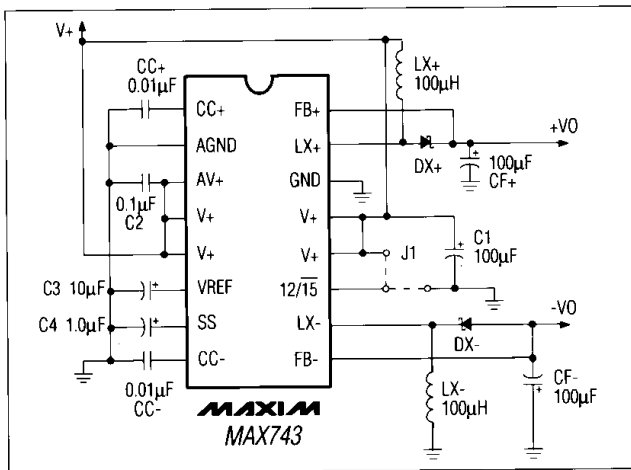
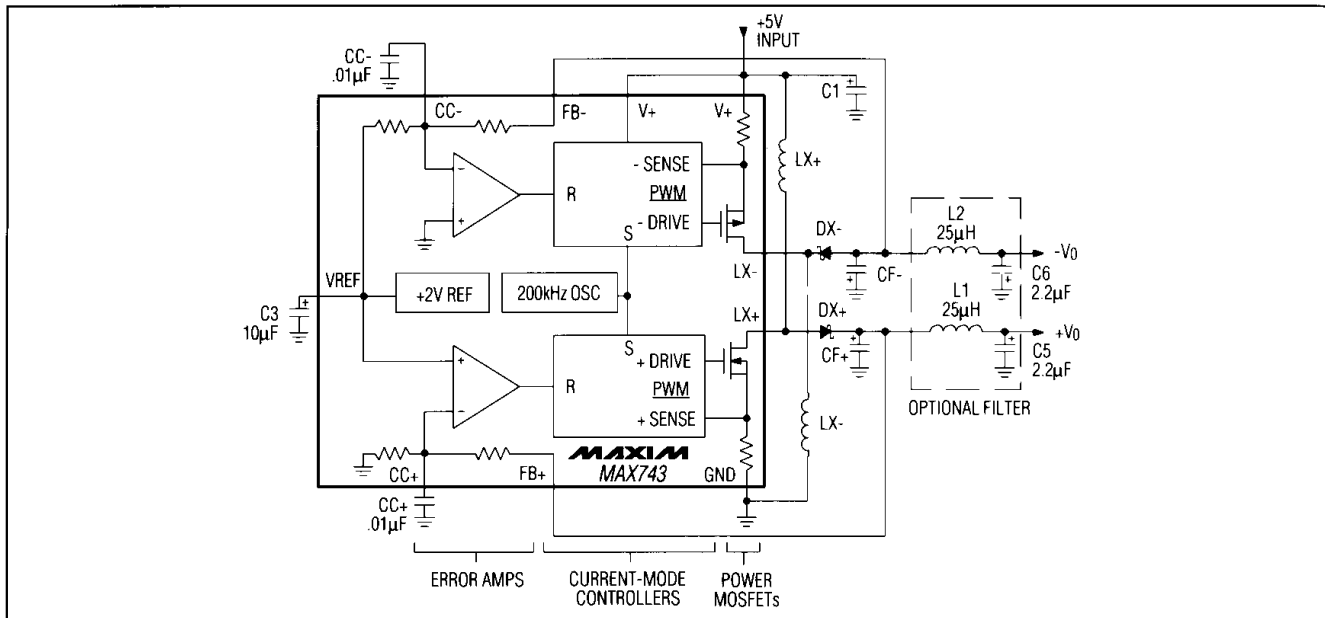
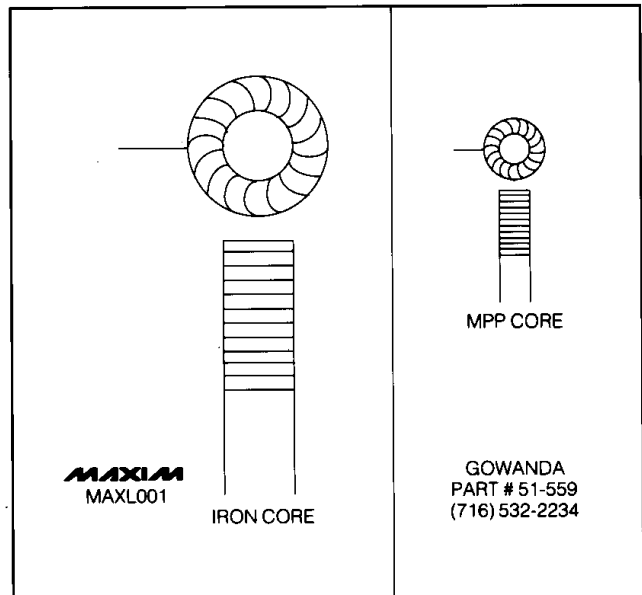
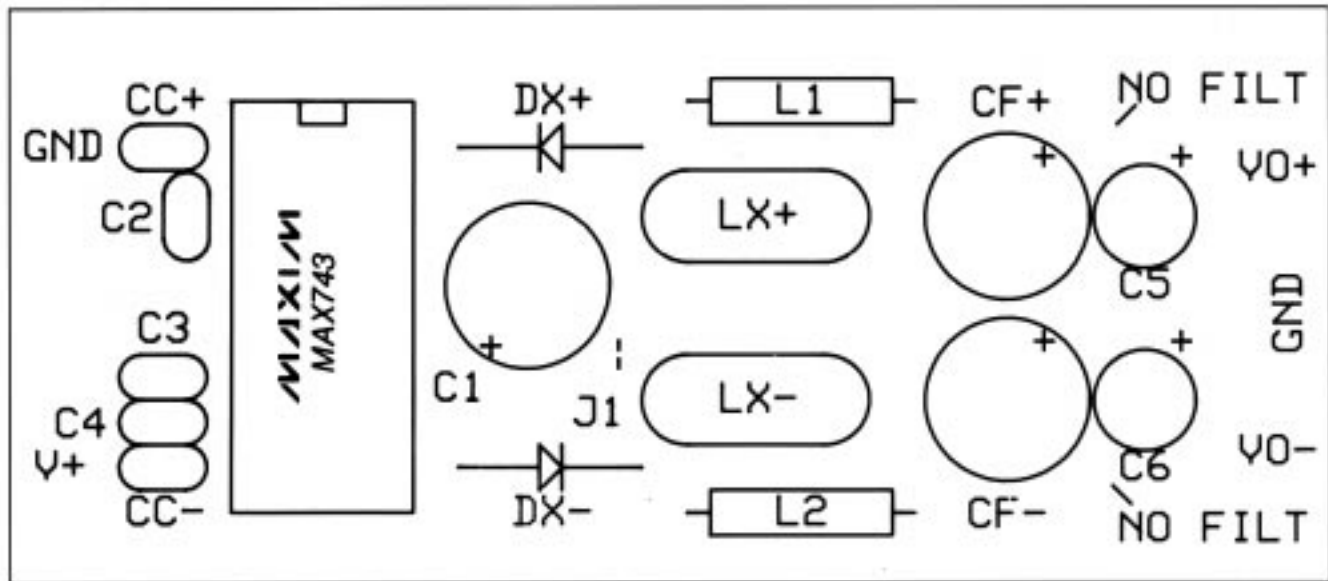

Figure 1. Basic Application Circuit
Figure 4. Functional Diagram with Optional Pi Filter
Figure 5. 100 μ H Low-EMI Inductors for 3W Supplies (Actual Sizes) (See Table 1)
Figure 7. Component Placement Diagram for PC Layout of Figure 6
(Circuit of Figure 1, $+4.5V < V+ < +5.5V$, Note1.)
(Circuit of Figure 1, $V+ = +5.0V$, $12/15$ pin = $0V$, $I_{LOAD} = 0$, $T_A = T_{MIN}$ to T_{MAX} , unless otherwise noted.)
The circuit in Figure 1 has been tested at all line, load, output current, and temperature limits. Refer to the Electrical Characteristics table for guaranteed in-circuit specifications. Successful use of this circuit requires no component calculations.
The MAX743EVKIT Evaluation Kit demonstrates the output capabilities and noise performance of the MAX743 standard application circuit (Figure 1). The kit includes main switching components identical to those found in the high-volume production kit described on page 11 (MAX743CPEKIT). With a few quick modifications, the circuit can also serve as a low-noise test bed to evaluate other components, such as the miniature MPP toroid inductor of Figure 5. The kit includes optional Pi filters shown in the Functional Diagram (Figure 4), which reduce output noise to less than 2mVp-p.
1. Build Circuit. Assemble the PC board according to the component placement diagram of Figure 7 and the schematic of Figure 4. 3 resistors will be left over (and used for testing). The extra holes near LX and CF are options for nonstandard component sizes. Do not install jumper, J1, or C4.